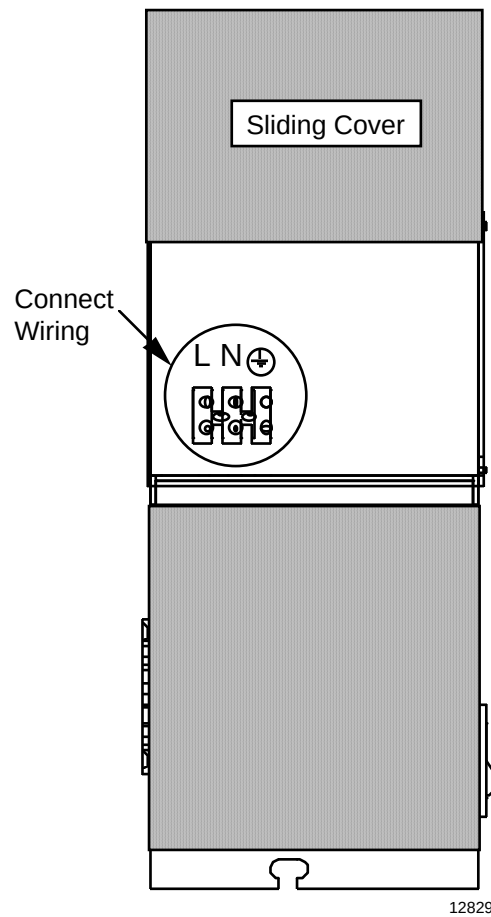

Figure 5-5 Z-Furniture Station Power Connections
- Figure 5-5 show the interior of the connection box.
Wire the AC service to the terminals as indicated by the symbols in Figure 5-5.